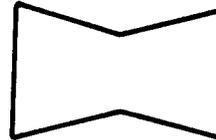

Fig. 26—Developing Symbol
2.26 *The developing symbol* (Fig. 26) represents the developing process for making information or a medium permanent and/or readable by man or machine.